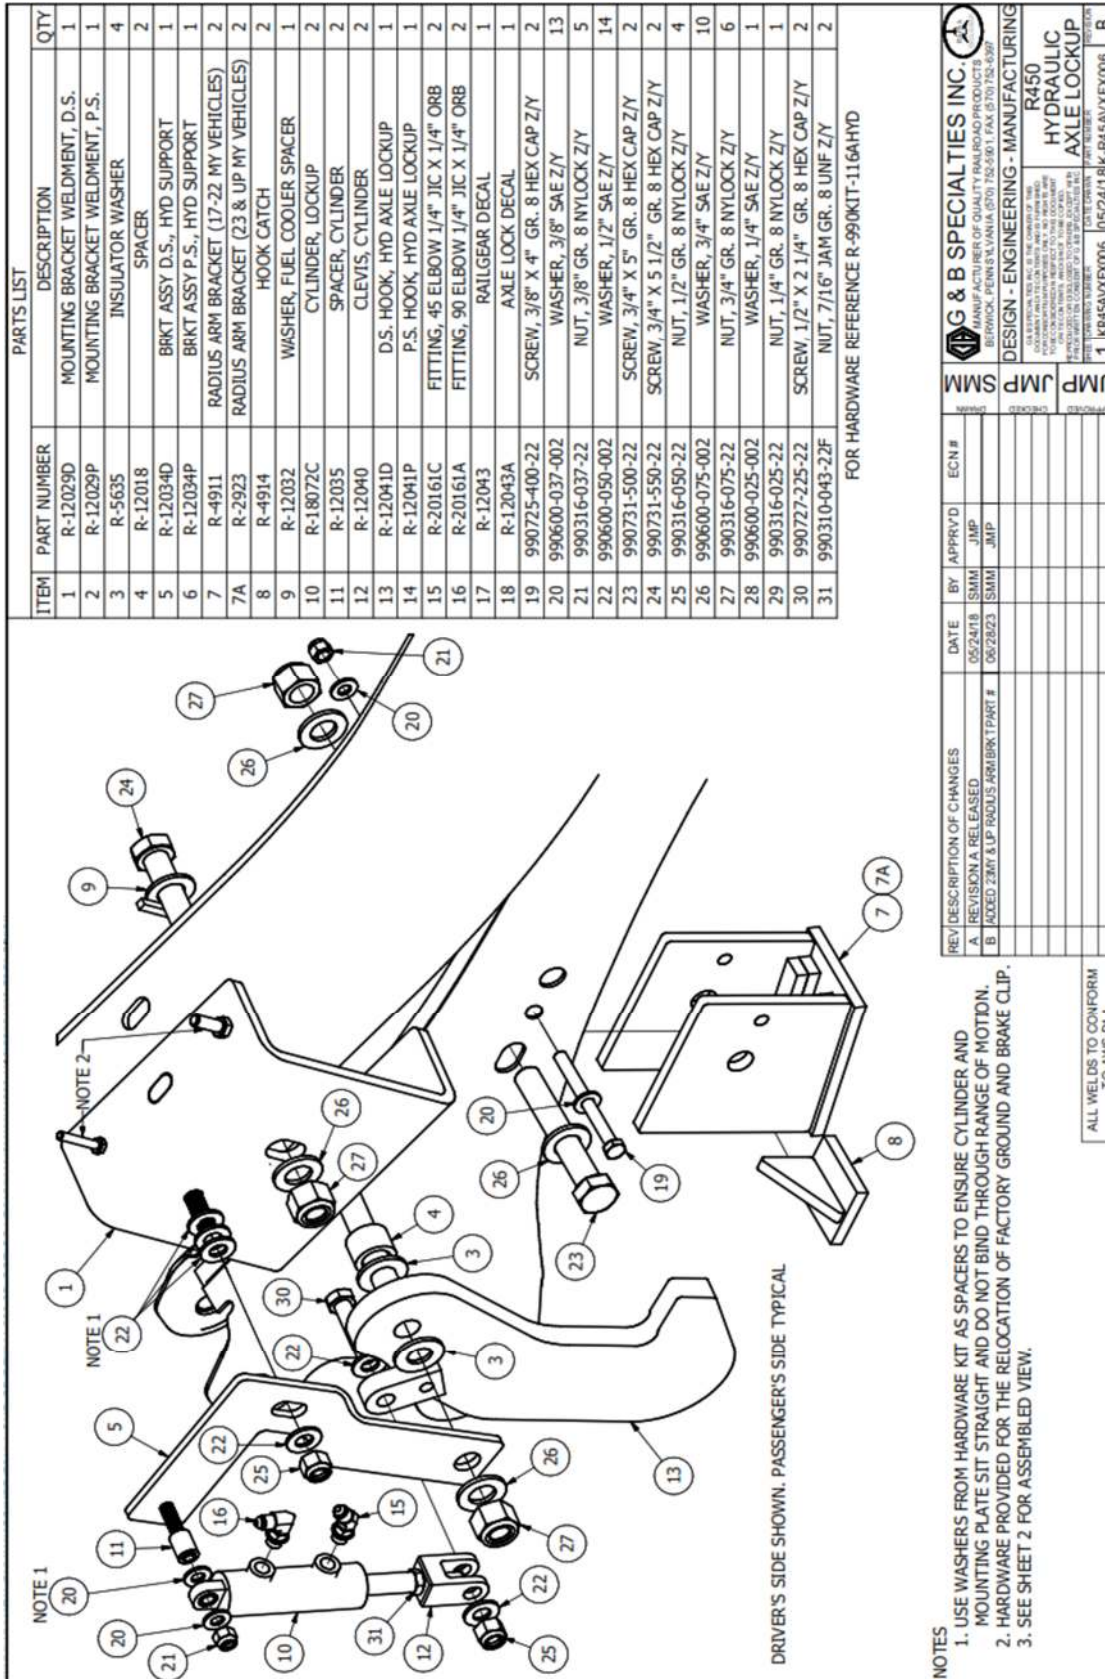

Figure 1
3. Find the slotted hole on top of the frame. Take bracket R-12029D (Driver's Side) and align the locating slug on the bracket with the slot in the frame. When done correctly, slug should drop into the slot on the frame and the bracket sit against the top and outer surfaces of the frame. See (Fig. 1).
4. With the bracket on the frame, center punch the slot on the bracket. Remove bracket and drill a 49/64" hole. Hole should line up with existing square hole where we removed the clip from earlier. Check with supplied 3/4" bolt to ensure bolt sits parallel and is not angled. Hole may need to be reamed to ensure this. The hole on the outside of the frame can also be obtained by drilling the square hole on the inside of the frame through to the outside. The bracket is slotted for this reason, just ensure bolt sits straight and not on an angle. Once hole is in place and bolt sits parallel, re-install fuel cooler leaving out the clip we removed. Install bracket to frame, using R-12032 and 3/4" hardware as shown in Fig. 1. See Fig. 7 for proper install reference. (Passenger side will need the hole drilled through to the inside of the frame. There are no holes present on the passenger side.)
5. On the radius arm you will see a slotted hole with a hole next to it. Take R-4911 or R-4923 (Depending on Model Year) and place it on the radius arm with the larger hole in the bracket aligned with the slot, positioned closest to the hole side of the slot. See (Fig.5) Place 3/4" bolt that was supplied through the bracket and radius arm to help hold the bracket, and with the bracket against the bottom of the radius arm, mark the center of the small hole of the bracket on frame. You may also mark the center of the hole on the inside of the frame. Drill a 13/32" hole through the radius arm, or on the inside and outside where marked. With hole drilled, install bracket using the 3/4" and 3/8" hardware supplied in kit. See (Fig.1) for reference. Ensure not to over-tighten bolts and deform the radius arm.
6. Assemble the hook, R-12041D, and bracket, R-12034D, onto the all thread and stud as shown in Fig. 1. If lateral adjustment is required supplied spacer can be trimmed down, or washers can be added into assembly to maintain proper clearance with frame, suspension arm, and hook. Nylock nut should be tightened enough to secure hook, but not hinder it from swinging. (R-12041P and R-12034P will be used on Passenger's Side)